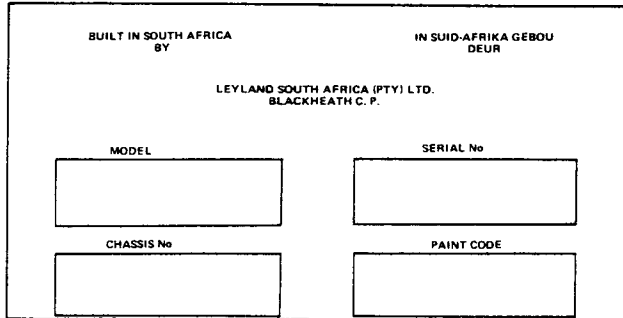

Fig A1
2. Refer to Fig A1. The plate on the right hand wing inside the engine compartment shows: